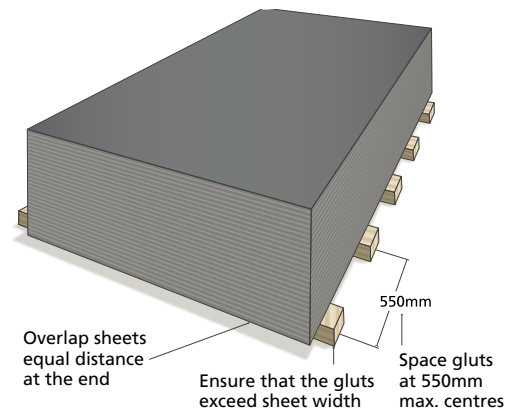

Figure 1. Storing Seratone® panels
- Keep sheets flat by stacking on evenly spaced bearers (gluts) which extend across the full sheet width (refer to Figure 1).